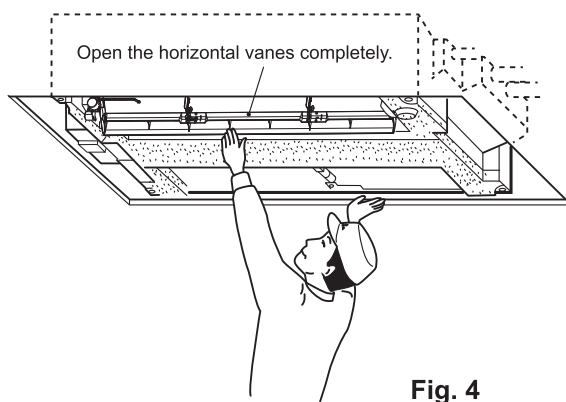

Fig. 4
- Open the horizontal vanes on the indoor unit completely. (Fig. 4)